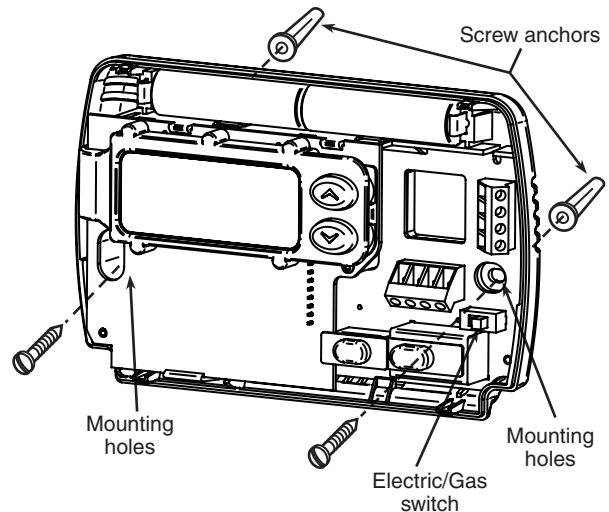

Figure 1. Thermostat Base
This thermostat is configured from the factory to operate a heat/cool, fossil fuel (gas, oil, etc.), forced air system. It is configured correctly for any system that **DOES NOT** require the thermostat to energize the fan on a call for heat. If your system is an electric heat or heat-pump system that **REQUIRES** the thermostat to turn on the fan on a call for heat, locate the **GAS/ELECTRIC switch** on the back of the thermostat (see fig. 1) and switch it to the **ELECTRIC** position. This will allow the thermostat to energize the fan immediately on a call for heat. If you are unsure if the heating/cooling system requires the thermostat to control the fan, contact a qualified heating and air conditioning service person.
5. Fasten base loosely to wall, as shown in fig. 1, using two mounting screws. Place a level against bottom of base, adjust until level, and then tighten screws. (Leveling is for appearance only and will not affect thermostat operation.) If you are using existing mounting holes, or if holes drilled are too large and do not allow you to tighten base snugly, use plastic screw anchors to secure subbase.
If "**LO BATTERY**" is displayed, the batteries are low and should be replaced. For best results, replace all batteries with new premium brand alkaline batteries such as Duracell® or Energizer®. To replace batteries, install the batteries along the top of the base (see Fig. 1). The batteries must be installed with the positive (+) end to the left.